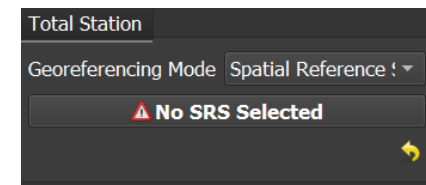

Fig. 59 SRS selection
3. Instead of the GPS tab, the *Total Station* tab shall appear on the right panel. Here, press on **Spatial Reference System** icon of Fig. 59,